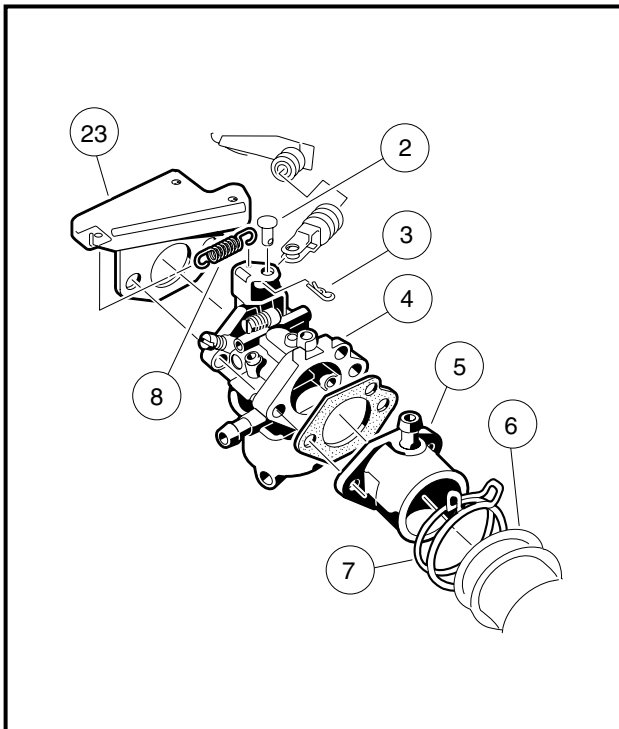

Figure 13-6 Carburetor Removal
4. Loosen air intake hose clamp (7) from the intake pipe (5) and remove hose (6) (**Figure 13-6, Page 13-9**).
6. Remove cotter pin (3) and clevis pin (2) from throttle lever (**Figure 13-6, Page 13-9**).
7. Remove nuts at carburetor intake pipe (5) and remove intake pipe. **See following CAUTION.**
8. Remove carburetor (4) along with throttle spring (8) and throttle spring bracket (23) (**Figure 13-6, Page 13-9**).